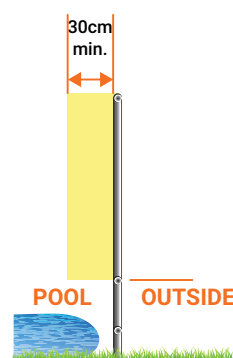

Figure 4 – climbable surfaces, inside the pool area, located at least 30cm away from the inside of the pool fence.
c. Are climbable surfaces, inside the pool area, located at least 30cm away from the inside of the pool fence? (see Figure 4)	<input type="checkbox"/>